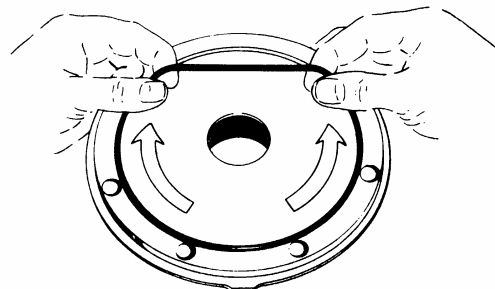

Figure 7 – Head O-Ring Installation
8. Install a new head O-ring (72) in the groove on the inside face of the head. Lay the O-ring flat and start in on one side of the groove, stretching ahead with the fingers, as shown in Figure 7.